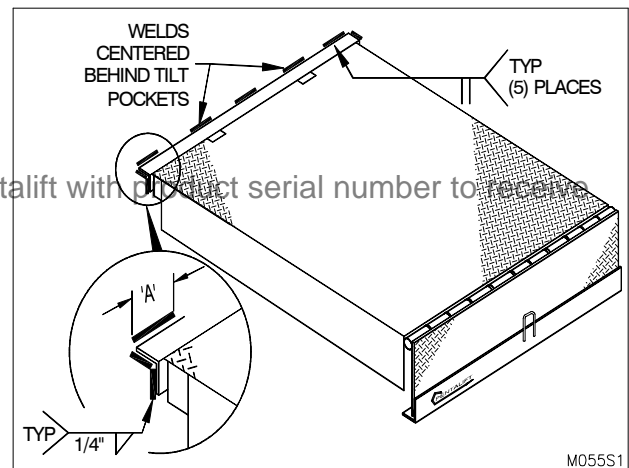

Figure 7: Weld to Rear Curb Angle
- Weld back angle of dock leveler to rear curb angle as shown in Figure 7: Weld to Rear Curb Angle on page 7 using the Welding Reference Information and Welding Reference Charts as a guide.
15. Complete welding the back angle of the dock leveler to the rear pit curb angle as shown in Figure 7: Weld to Rear Curb Angle on page 7.